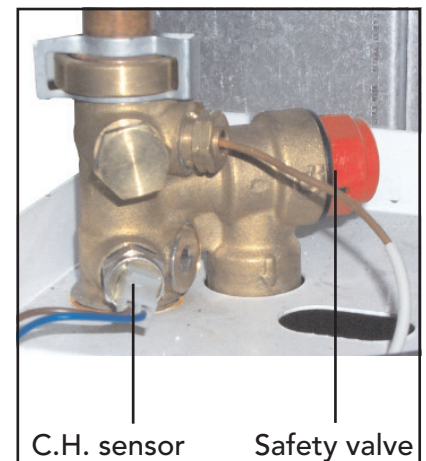

Fig. 25
Central Heating Temperature Sensor (fig. 25)
Safety Valve (fig. 25)
- Identify valve from fig. 25